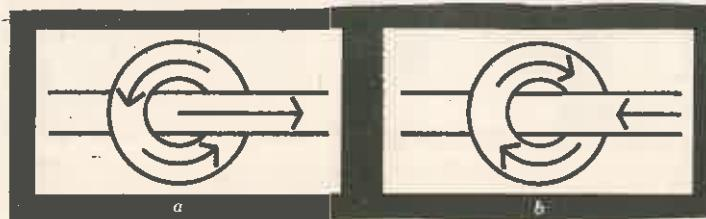

Fig. 36.25. Two-state representation with ferrite cores.
- Fig 36.25 shows a single wire being used to apply current to the core. The typical arrangement uses two wires strung through the core.
In Fig. 36.25 (a) current is applied in one direction to polarize '1', (b) current is reversed and polarity flips to the opposite direction to represent '0' (zero).